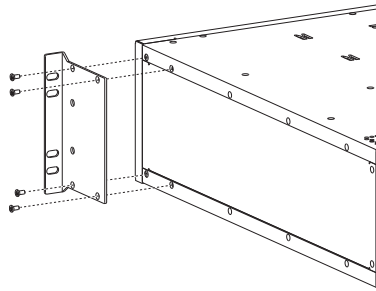

FIG. 9 Attach rack ears
1. Attach the rack ears per FIG. 9.